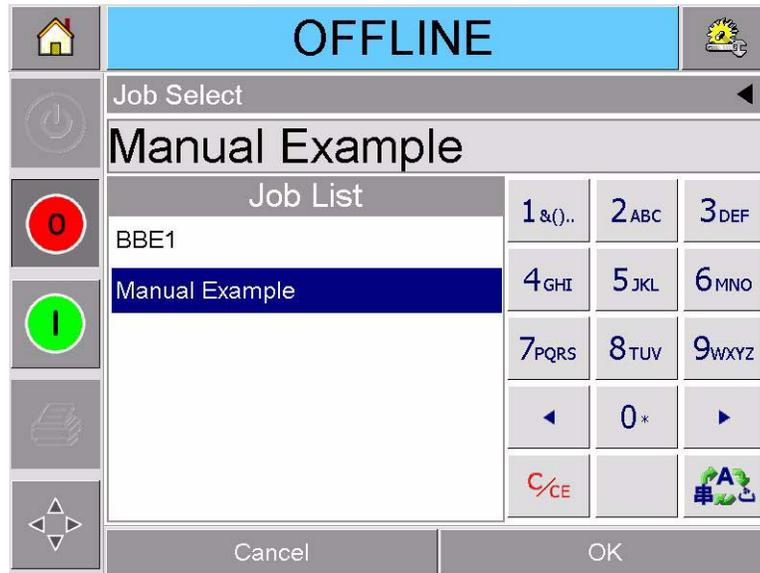

Figure 4-5: Job Selection
- 2 Touch the name of the required job in the list, as shown in Figure 4-5 on page 4-5 and then touch ok.